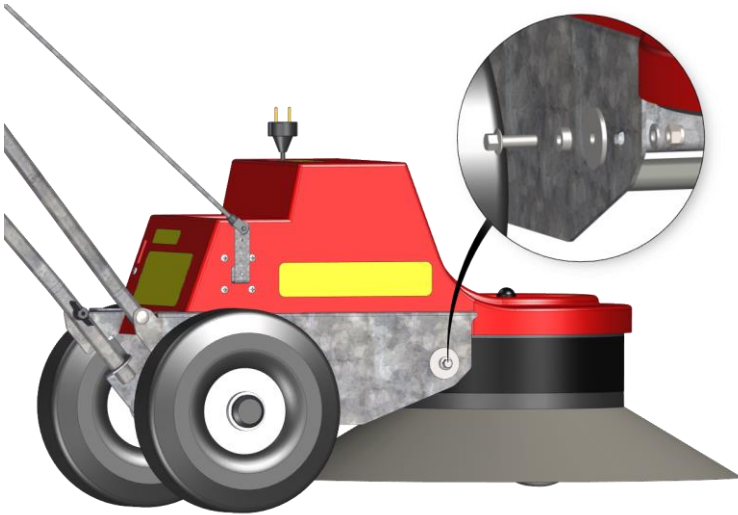

Fig. 60: WR 650 Cleanbag take-up screw
1. Establish the screw connection (take-up screw) according to Fig. 60 and tighten to the required torque of approx. 26 Nm (see Tab. 2, page 107).